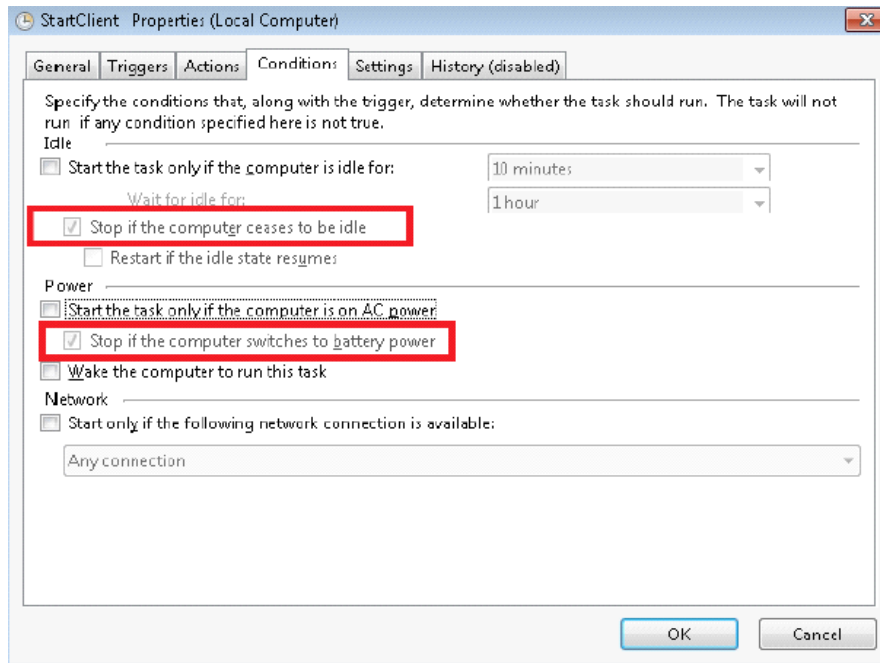

Fig. C.45: Conditions tab
STEP 14 – Please select *Conditions* tab, in *Idle* section verify that *Start the task only if the computer is idle for* option is not checked and that *Stop if the computer ceases to be idle* is checked but the check box is not enabled. In *Power* settings deselect *Start the task only if computer is on AC power* and verify that *Stop if the computer switches to battery power* is checked but the check box is not enabled (Fig. C.45).